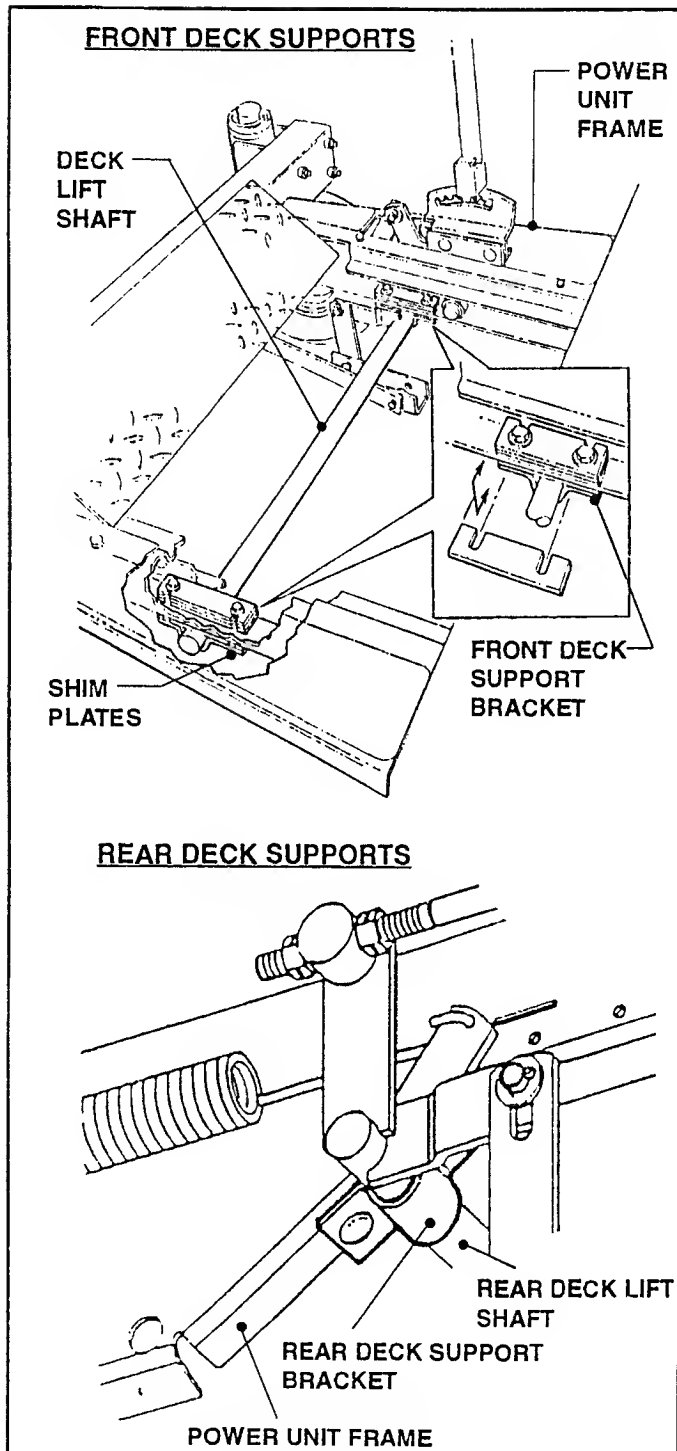

FIGURE 8.8
- f) Loosen hardware securing the Front and Rear Deck Support Brackets on "High" side of deck. See Figure 8.8 on Page 8.6.
- g) Located above each Support Bracket, on top of the Frame, are three (3) Shim Plates. Refer to Figure 8.8.
- h) Remove one (1) Shim Plate from above each of the "High" side Front and Rear Support Brackets.
- i) Position the Shim Plates between the underside of the Frame and each Support Bracket on the "High" side. (Refer to INSET in Figure 8.8).